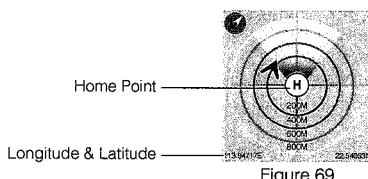

Figure 69
• Distance units are metric in Figure 69 and Figure 70. Users can switch the unit to imperial in the settings page.